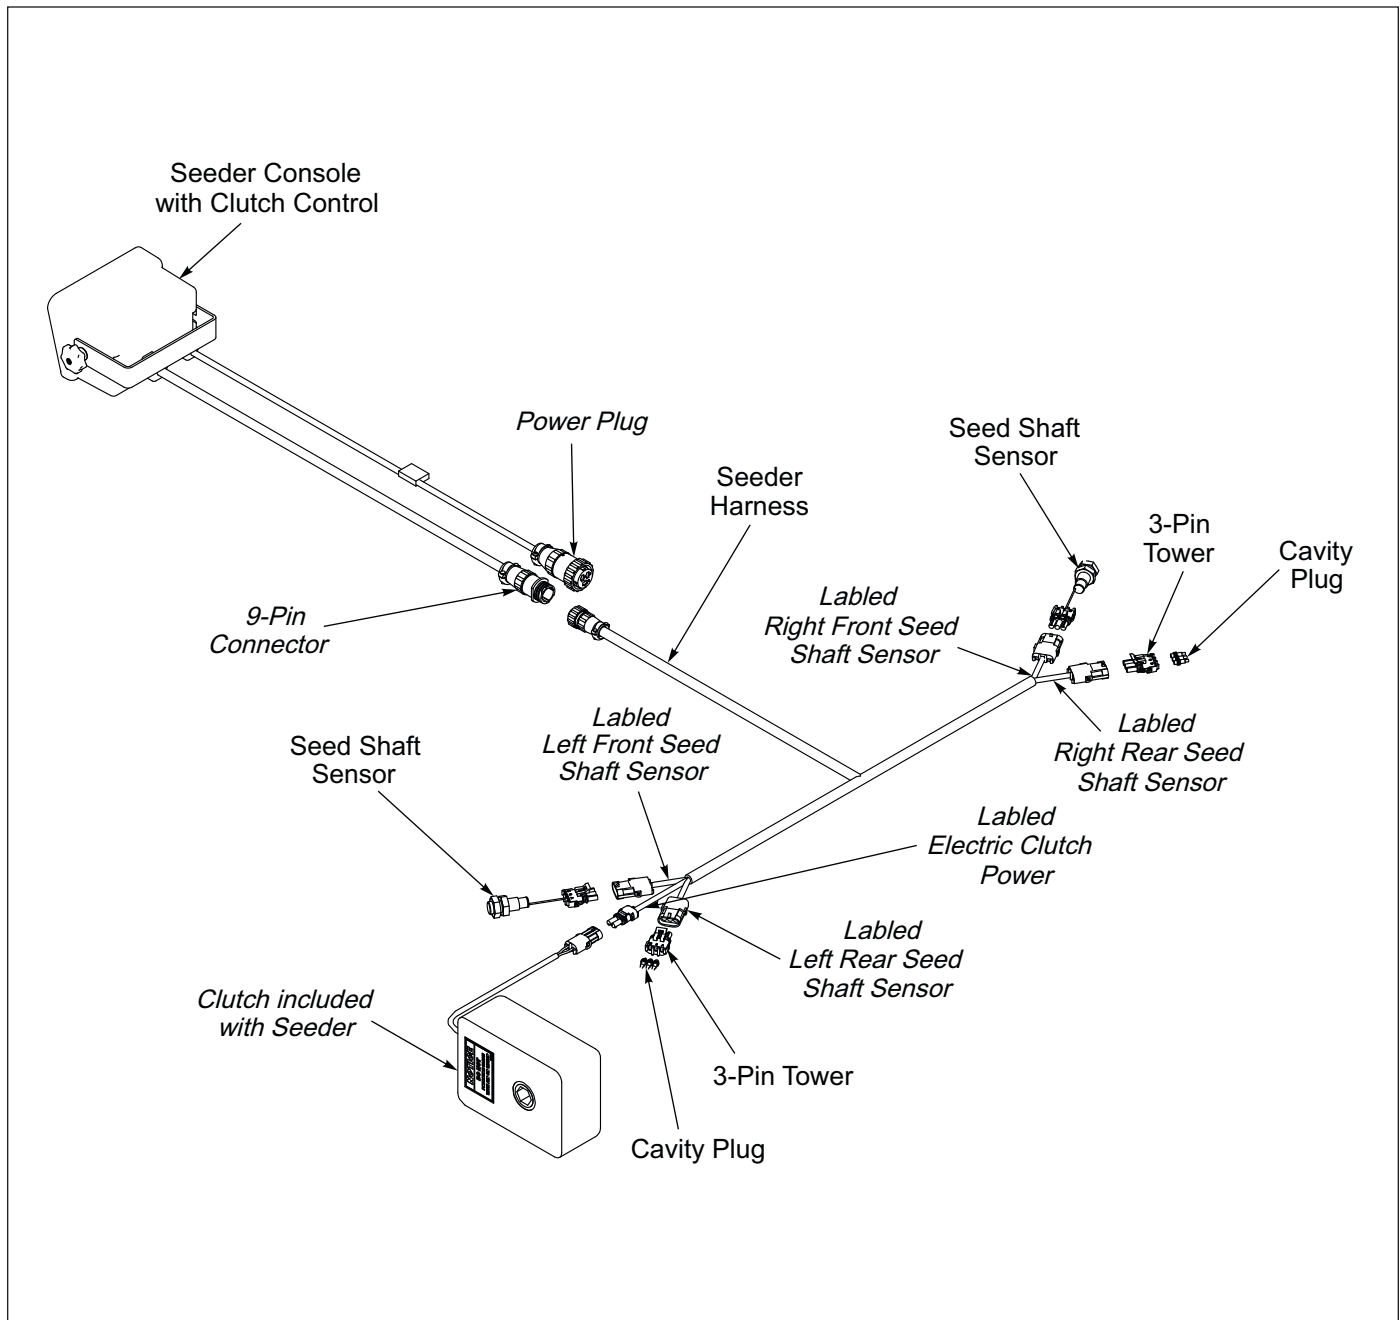

Figure 2-41: Console w/Clutch Control Electrical Schematic
5. On left side connect plug labeled "Electric Clutch Power" to the Electric Clutch lead. If you do not have an Electric Clutch seal the plug end using a 2-Pin Shroud and Cavity Plug to protect it from the environment. **See Figure 2-41.**